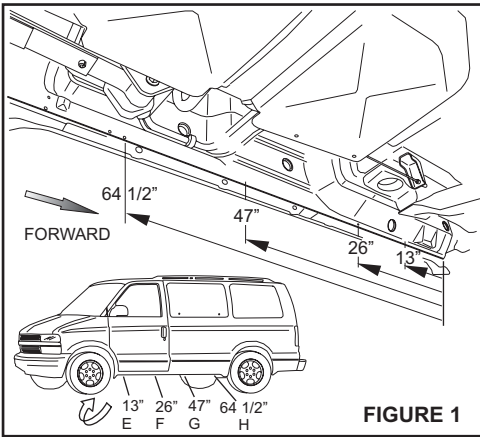

FIGURE 1
- STEP 2. Measure and mark pinch weld locations as shown. **SEE FIGURES 1 AND 2.**